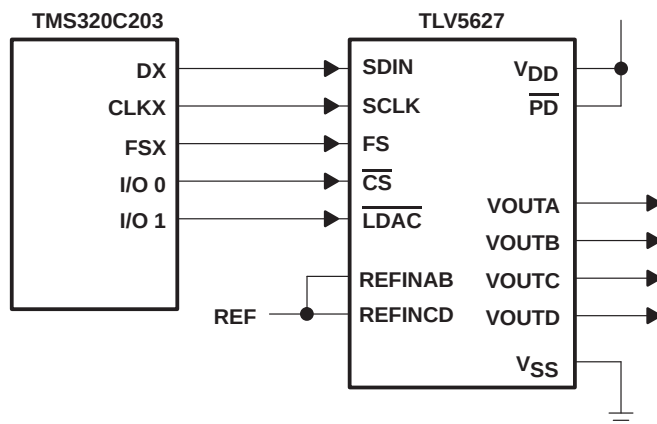

Figure 17. TLV5627 Interfaced with TMS320C203
Figure 17 shows an example of how to connect the TLV5627 to a TMS320C203 DSP. The serial port is configured in burst mode, with FSX generated by the TMS320C203 to provide the frame sync (FS) input to the TLV5627. Data is transmitted on the DX line, with the serial clock input on the CLKX line. The general-purpose input/output port bits IO0 and IO1 are used to generate the chip select ( $\overline{\text{CS}}$ ) and DAC latch update ( $\overline{\text{LDAC}}$ ) inputs to the TLV5627. The active low power down ( $\overline{\text{PD}}$ ) is pulled high all the time to ensure the DACs are enabled.